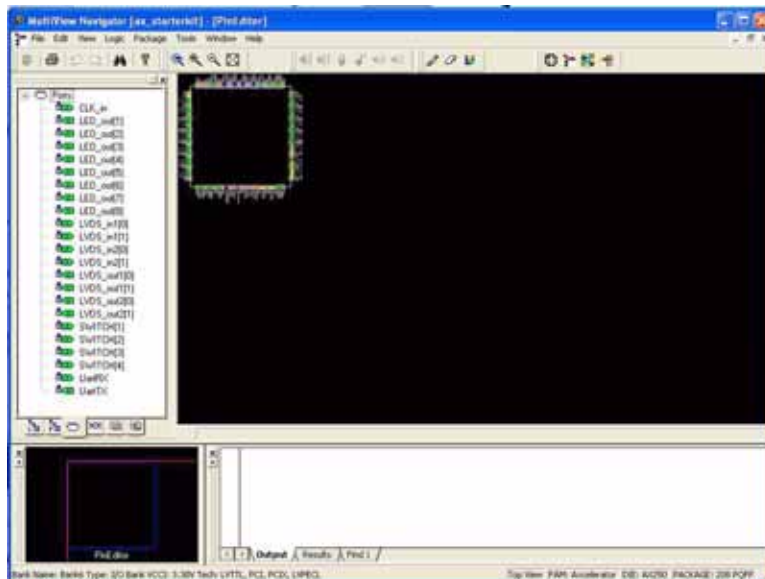

Figure 3-34. Expanding Ports
3. Expand the ports by selecting the "+" sign on the Ports tabbed page, as shown in Figure 3-34.